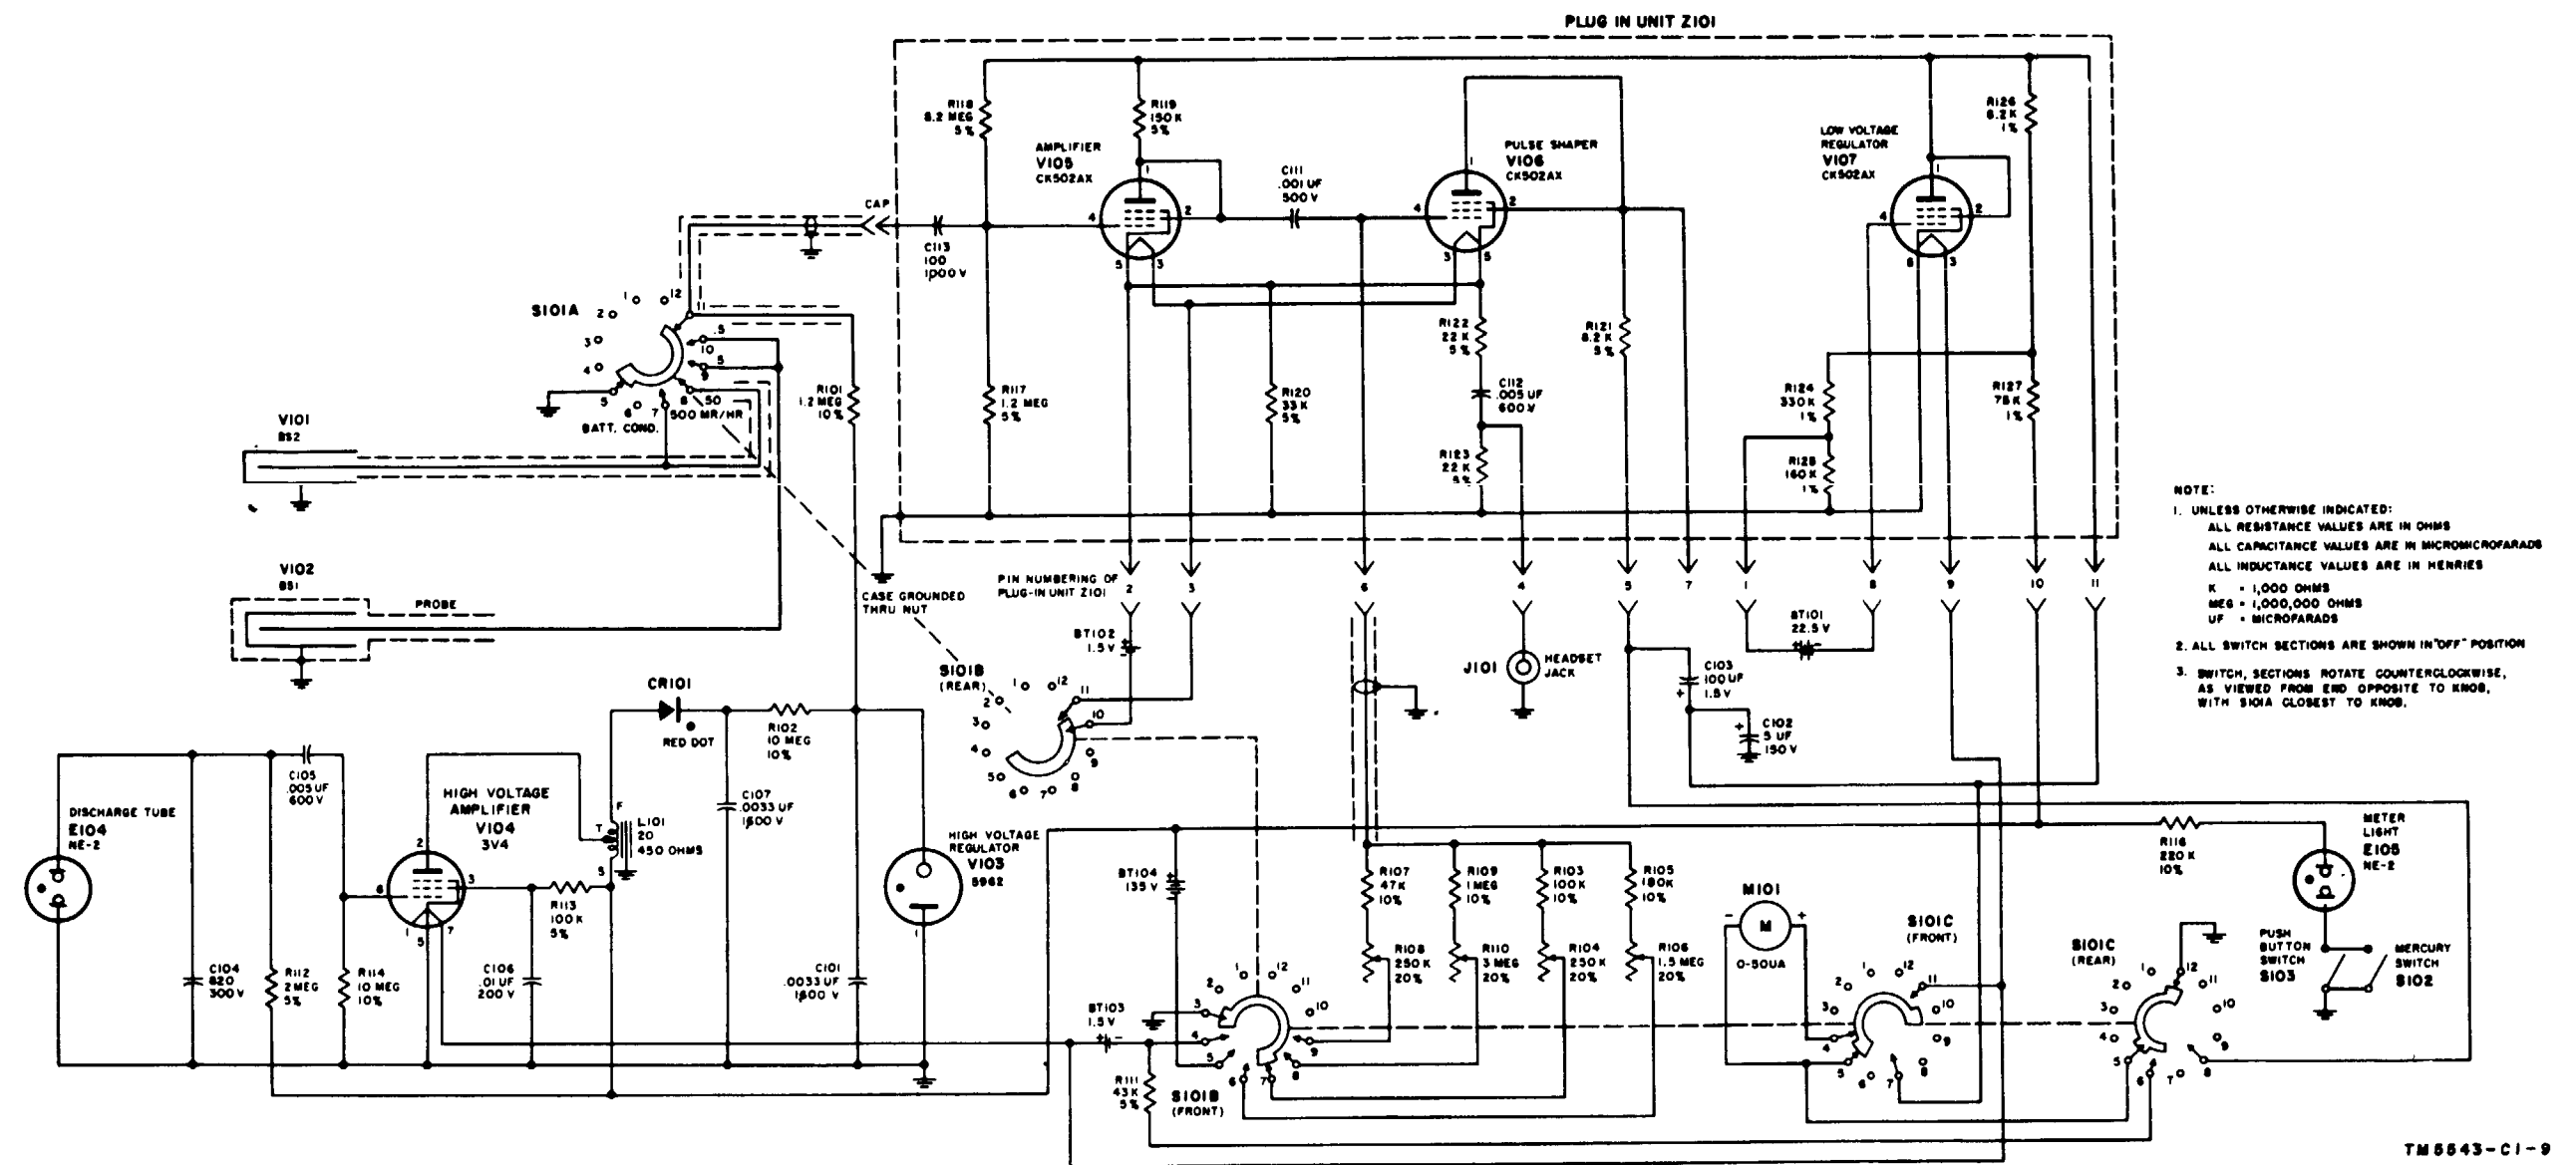

Figure 7-7.1 (Added) Radiacmeter IM-74A/PDR-27C, schematic diagram.
c. (Added) *Symbol Similarities.* The schematic diagram in figure 7-7 represents Radiac Sets AN/PDR-27A and -27C. Any differences in symbols between Radiac Set AN/PDR-27C and figure 7-7 are shown in table 7-5. The schematic diagram in figure 7-7.1 represents Radiac Set AN/PDR-27E.